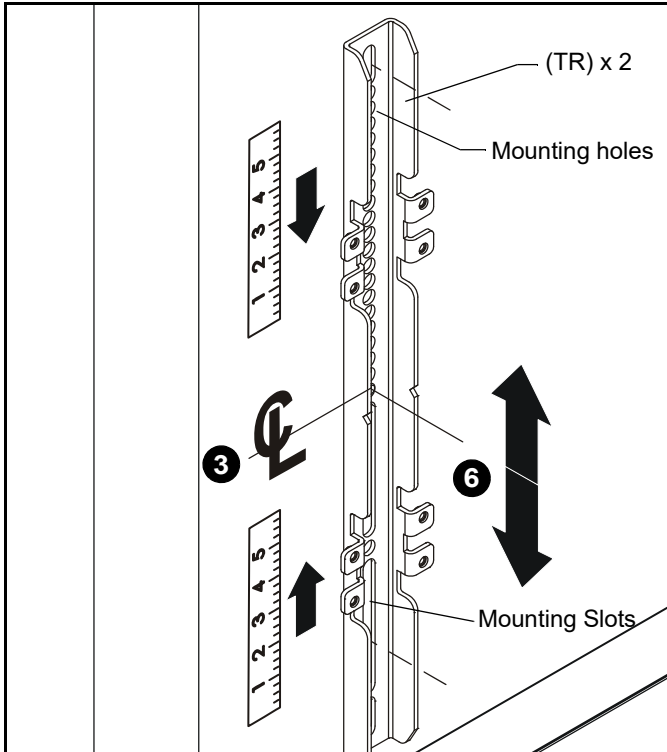
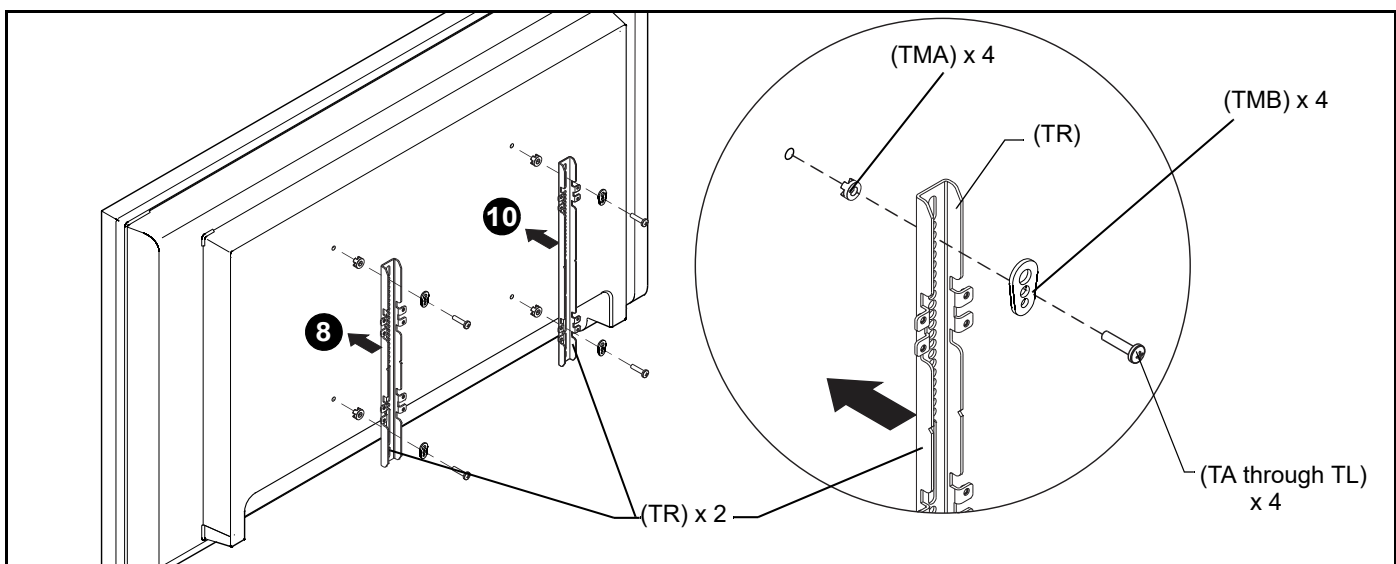

Figure 33
Figure 35
3. Determine and mark the vertical center position between the Left side Upper and Lower mounting holes in display. (See Figure 33)
4. Determine and mark the vertical center position between the Right side Upper and Lower mounting holes in display. (See Figure 33)
5. Orient vertical mounting bracket (TR) so that mounting holes are on top and mounting slots are on bottom. (See Figure 33)
6. Align mounting holes in vertical mounting bracket (TR) with upper and lower mounting holes in display.
7. Adjust vertical mounting bracket (TR) position until mark made in Step 1 aligns with center mark in vertical mounting bracket (TR)
8. Select correct screws, nesting spacers (if necessary) and universal washers (if required) from the hardware bag (TA-TM) and attach brackets to back of screen. (See Figure 35)
9. If the display has a recessed mounting surface, protrusions or a power box, a spacer and longer mounting hardware must be placed between the display and vertical mounting bracket (TR). (See Figure 35)